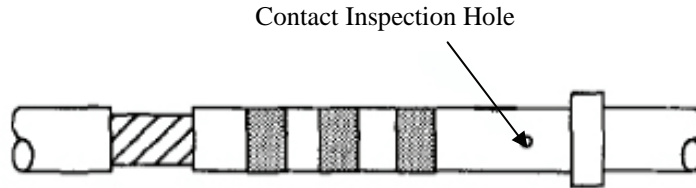

Figure 16. Insulation Gap
c. Insert stripped wire into contact conductor barrel. Ensure all wire strands are inside contact conductor barrel and visible in contact inspection hole (Figure 16).